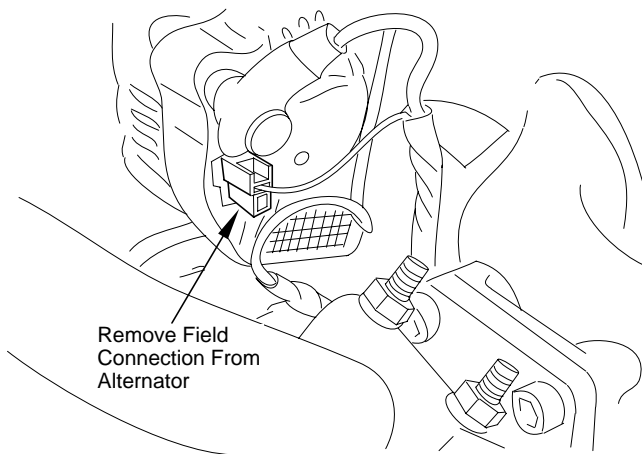

Figure 7-9 Field Connection
1. Disconnect the field connection from the alternator. See Figure 7-9.